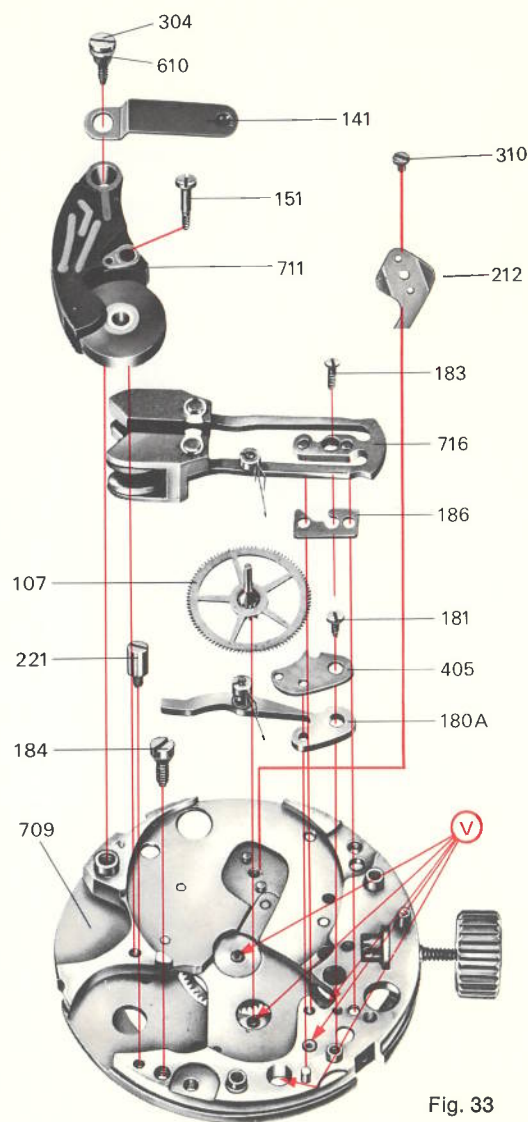

Fig. 33
1. Lubricate (V) the index wheel pivot jewels, 2nd wheel jewel (pillar plate). (Fig. 33).
2. Reassemble the pawl bridge 180A, retaining plate (405), phasing screw (184) and 4th wheel (107).
3. Reassemble the coil safety screw (221), tuning fork (716) with its spacer (186), coil assembly (711), cell strap (144) with its screw (304) and insulator (610) and ground screw (151).